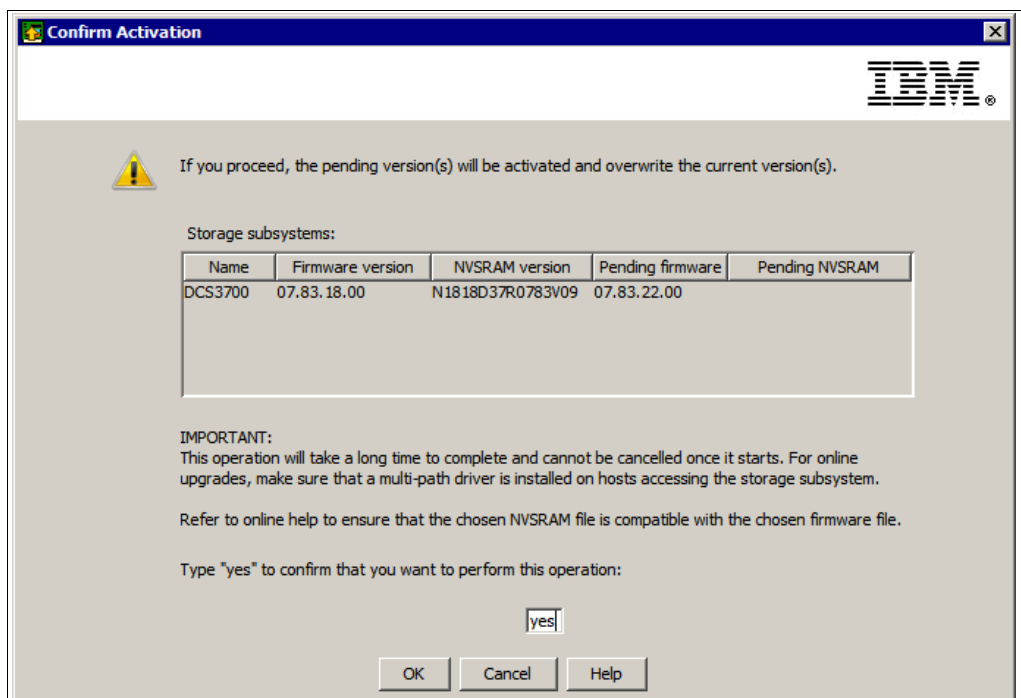

Figure 14-21 Confirm activation
- e. Click **Activate** to activate the pending firmware. The window that is shown in Figure 14-21 opens.